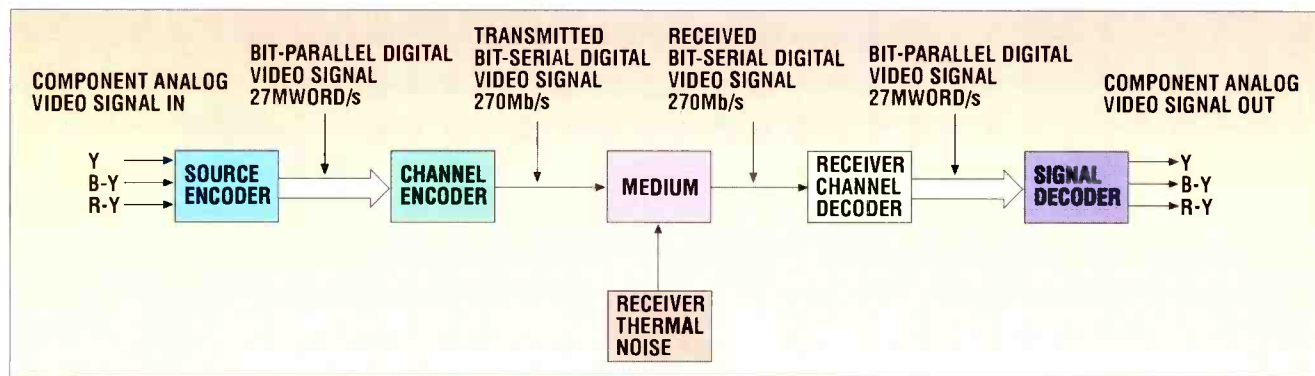

Figure 1. Bit-serial digital video signal distribution model.
Figure 1 shows a block diagram of a bit-serial digital signal distribution model. The source encoder is a conventional
**Figure 1.** Fiber connectors are becoming more common and easier to use. Terminating a fiber cable into a connector typically involves a mechanical splice at or near the connector.